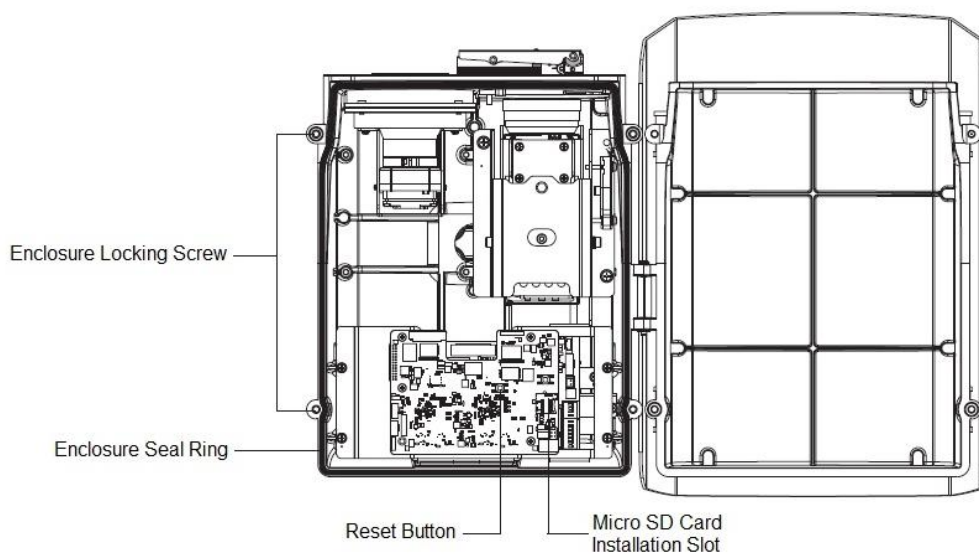

Figure 2-1
**Step 1** Loosen the screws on the lower cover. You can see the SD card slot and reset button after opening the lower cover, which is shown in Figure 2-1.